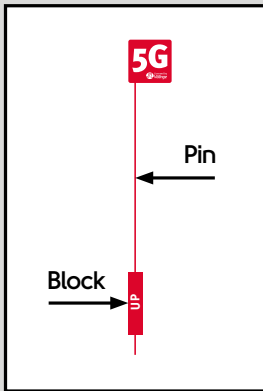

Fig. 1
1. When a plank is locked in place, it is not possible to take it up by hand. Use the 5G® dismantling pin together with the guiding block to disassemble the planks (Fig 1).